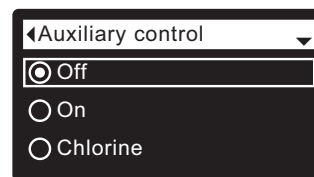

FIG. 93
7. Press the SELECT (O) button to display the Auxiliary control menu (See Figure 93).
8. If the desired option already has a dot next to it (See Figure 93), go to Step 9. Otherwise, press the DOWN (▼) or UP (▲) buttons to scroll to the desired option, then press SELECT (O) to choose it.